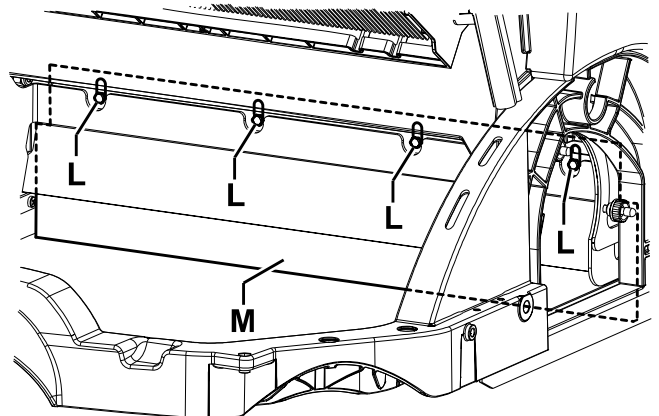

Figure 10
16. Check that the height of the rear skirt (25) is as shown in the figure (C), the skirt must touch the floor all along its length.
17. If necessary, loosen the screws (L, Fig. 10) and adjust the height of the skirt (M) by using the slots of the mounting holes.
18. When the adjustment is completed, tighten the screws (L).